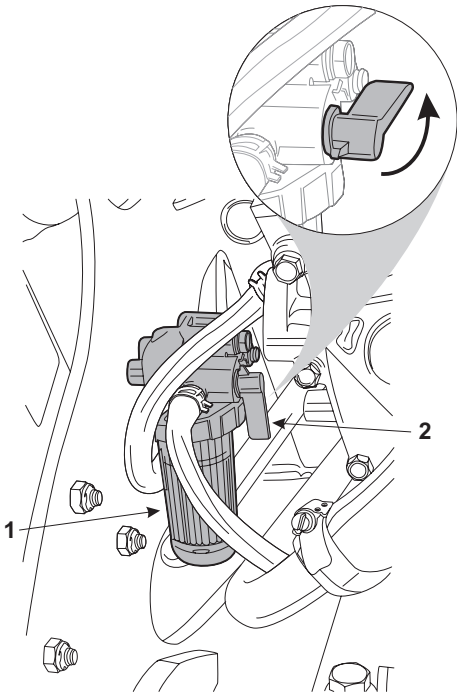

Figure 4-6 Engine Fuel Filter/Water Separator
6. Check the fuel filter/water separator to make sure that there is no water in the filter bowl (Item 1, **Figure 4-6**).
1. Rotate the fuel shut off valve (Item 2, **Figure 4-6**) to stop the fuel flow from the tank.
3. Rotate the filter bowl (Item 1, **Figure 4-6**) and remove it from the filter assembly.